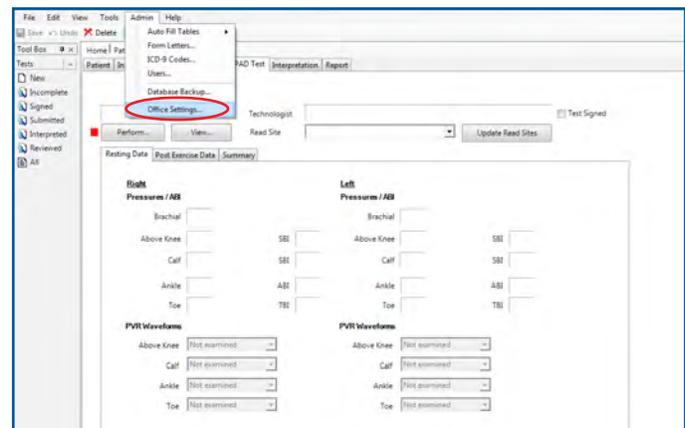

FIGURE 1.38 - Admin Menu - “Office Settings...”
2. Set the software to include Doppler enabled pressures. Start from the Home screen, click on “Admin” at the top, then click “Office Settings...” (Figure 1.38).